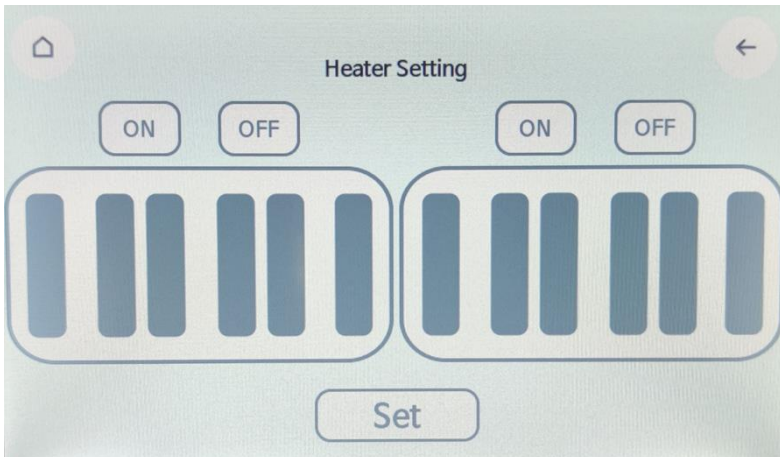

Figure 13. Heater Settings Menu of the IndiMag 48s touchscreen interface.
4. In the Heater Settings Menu, **ensure all heating elements are turned off**. The elements in the plate loader should be greyed out. (See Figure 13 below for reference). Tap 'Set' to open Run Menu.